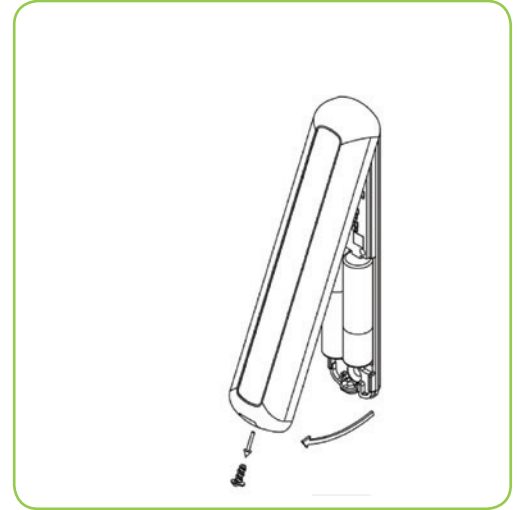

Figure-1 Open cover
1. Remove cover by pulling on side where security screw was mounted (Figure-1).